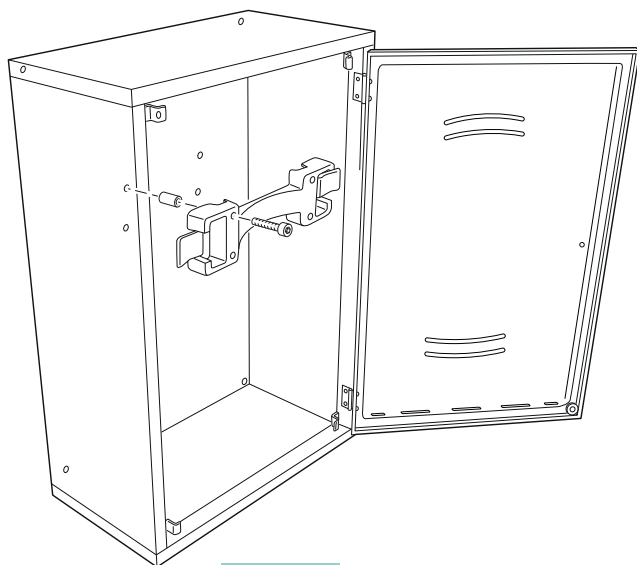

Fig. 6
1. Assemble the bracket in the foreseen holes with the given screws M5X30 (Fig.6).